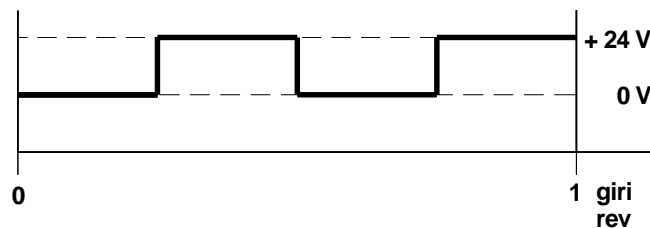

Figure 13.1 Output from sensor S3
1. Check whether the signal output from the sensor corresponds to that illustrated in figure 13.1.
2. If it does not, turn the sensor seat (4) until you obtain the output specified in the table. Hold the sensor in this position and tighten the fixing screw (6).
See section 12.2.4 to install and calibrate the sensor. Make sure that output is as specified in Figure 13.1.